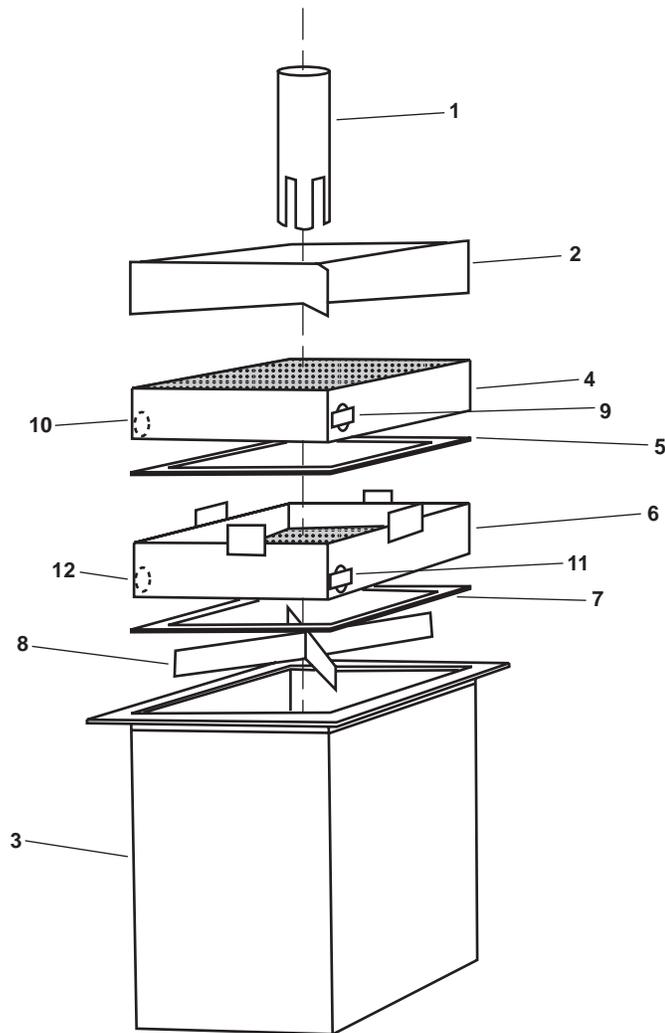

Figure 4. OWS Tank Assembly
13. Remove the inlet baffle (figure 4, item 1) and weir (figure 4, item 2) from the OWS tank (figure 4, item 3).
14. Remove the upper coalescer box (figure 4, items 4) from the OWS tank (figure 4, item 3).
15. Remove the upper coalescer box gasket (figure 4, items 5) from the OWS tank (figure 4, item 3). Discard the upper coalescer box gasket.
16. Remove the lower coalescer box (figure 4, items 6) from the OWS tank (figure 4, item 3).
17. Remove the lower coalescer box gasket (figure 4, item 7) from the OWS tank (figure 4, item 3). Discard the lower coalescer box gasket.
18. Remove the bottom standoff (figure 4, item 8) from the OWS tank (figure 4, item 3).
19. Remove the upper plug (figure 4, item 9) and lower plug (figure 4, item 10) from the upper coalescer box (figure 4, item 4). Insert a water hose into the upper plug hole and flush the beads out of the lower plug hole into a suitable screen covered drain pan with a steady flow of clean water.
20. Install the lower plug (figure 4, item 10) in the upper coalescer box (figure 4, item 4) and pour in the new/clean beads using a funnel. Completely fill the coalescer box and install the upper plug (figure 4, item 9).
21. Remove the upper plug (figure 4, item 11) and lower plug (figure 4, item 12) from the lower coalescer box (figure 4, item 6). Insert a water hose into the upper plug hole and flush the beads out of the lower plug hole into a suitable screen covered drain pan with a steady flow of clean water.
22. Install the lower plug (figure 4, item 12) in the lower coalescer box (figure 4, item 6) and pour in the new/clean beads using a funnel. Completely fill the coalescer box and install the upper plug (figure 4, item 11).
1. Install the bottom standoff (figure 4, item 8) into the OWS tank (figure 4, item 3).
2. Install a new lower coalescer box gasket (figure 4, item 7) into the OWS tank (figure 4, item 3).
3. Install the lower coalescer box (figure 4, item 6) into the OWS tank (figure 4, item 3).
4. Install a new upper coalescer box gasket (figure 4, item 5) into the OWS tank (figure 4, item 3).
5. Install a new upper coalescer box (figure 4, item 4) into the OWS tank (figure 4, item 3).
6. Install the inlet baffle (figure 4, item 1) and weir (figure 4, item 2) into the OWS tank (figure 4, item 3).